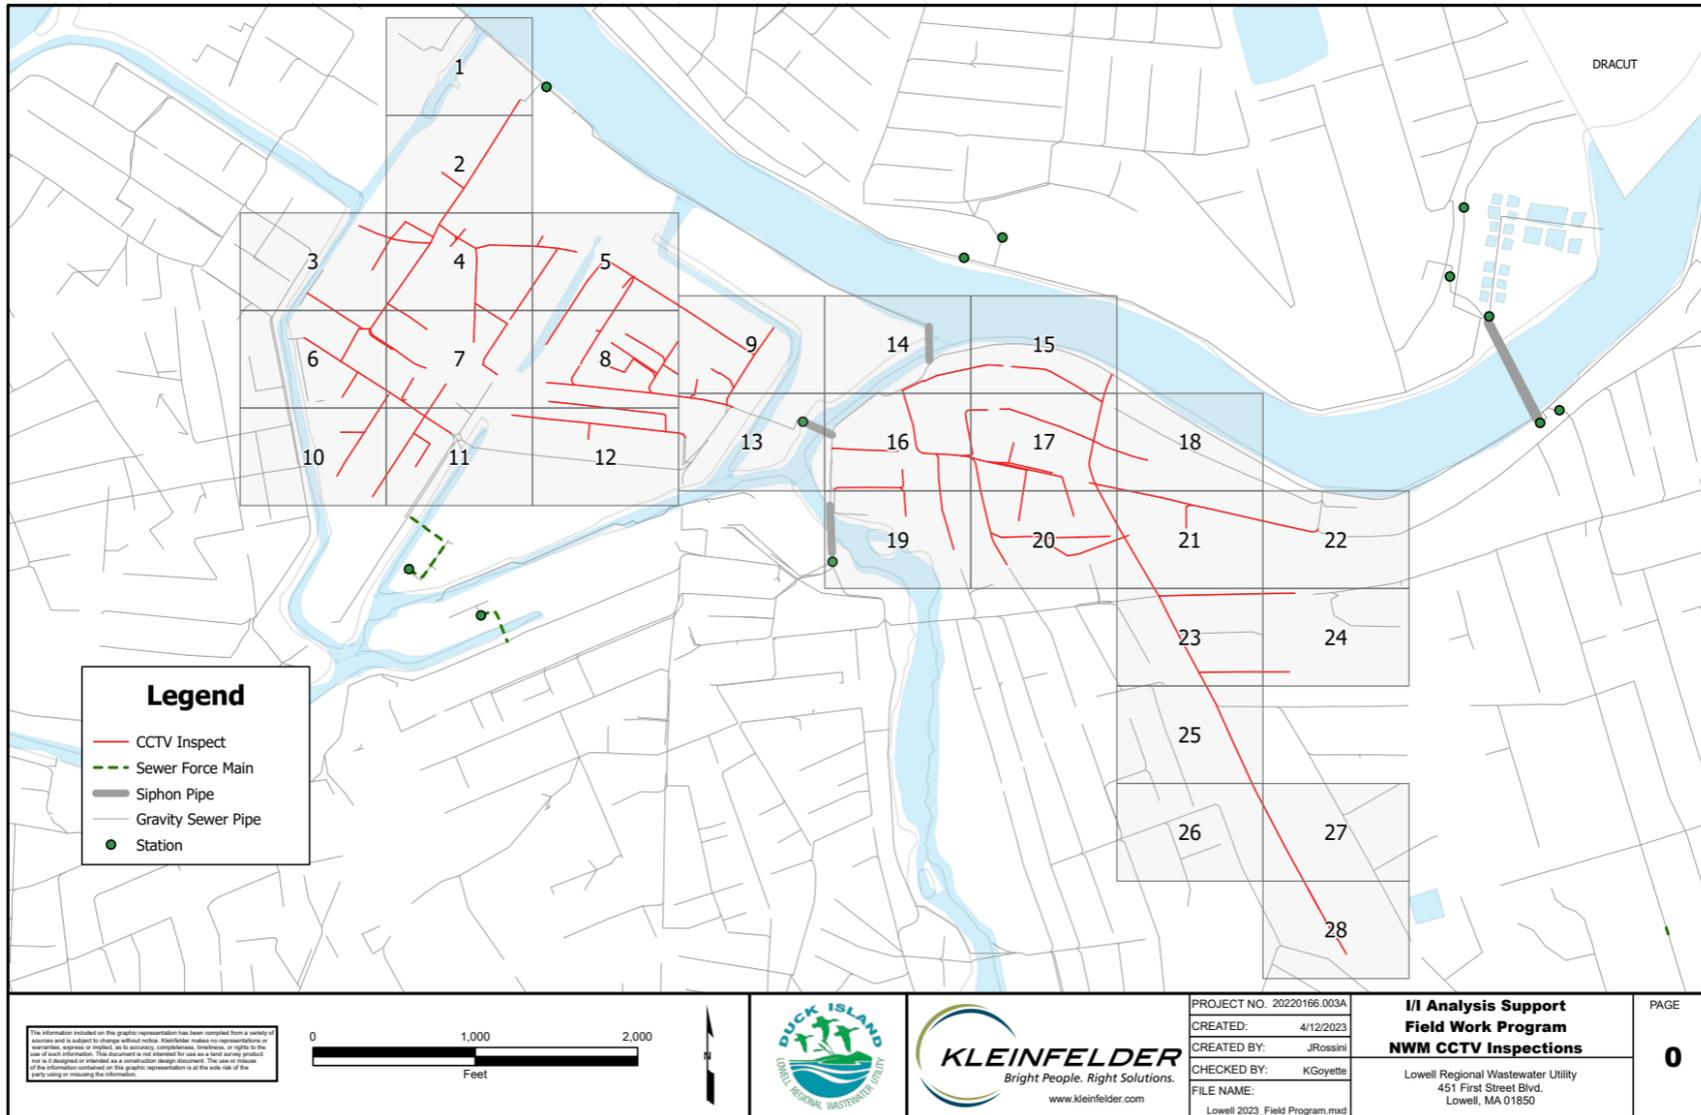

Figure 10. 2023 I/I Investigations
2. Conducted CCTV and manhole inspections during high groundwater periods in designated subareas 37, 38, and 51 with known and suspected sources of inflow, see Figure 10.